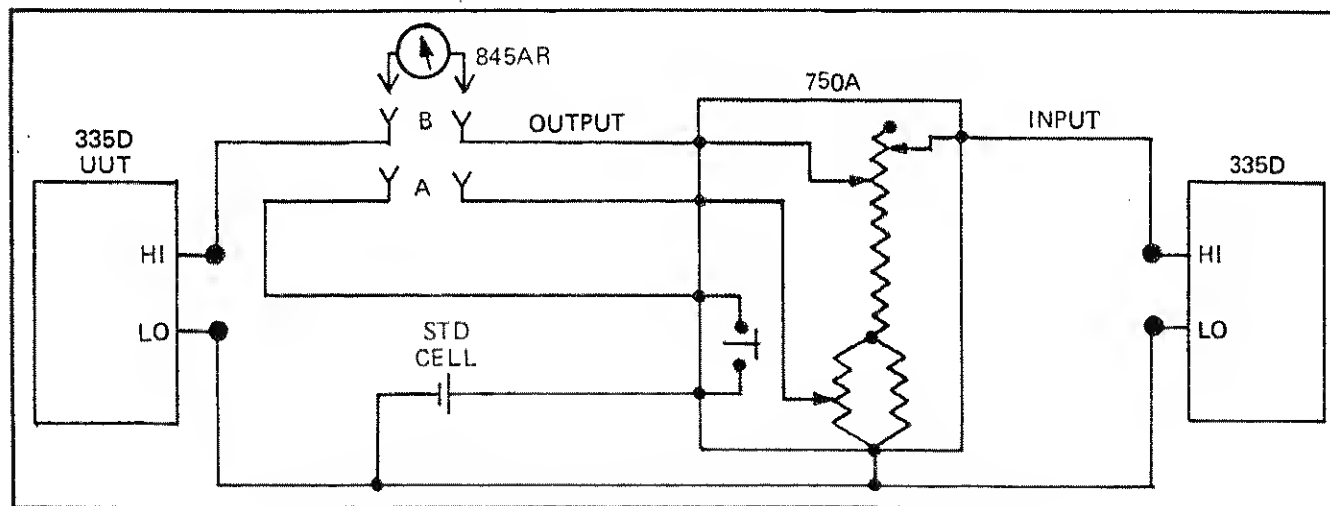

Figure 4-8. CONNECTIONS FOR RANGE CALIBRATION CHECKS
- l. Using the 7101B DC Voltage Calibration System make the equipment connections shown in Figure 4-8.
- p. Connect the 845AR to test points A shown in Figure 4-8.
- s. Connect the 845AR to test points B shown in Figure 4-8. The null indicator should read within the tolerance specified for this step in Table 4-14.